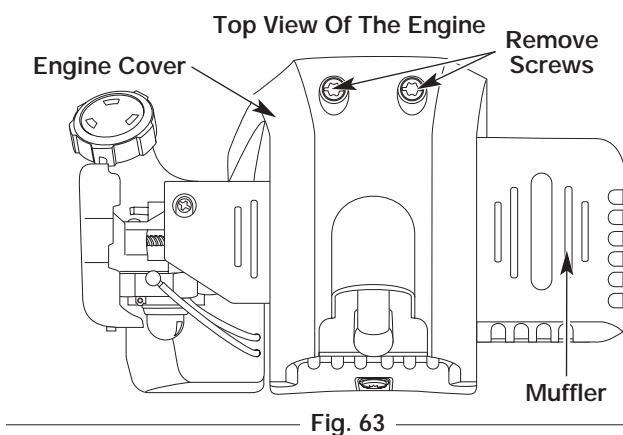

Fig. 63
2. Remove the two (2) screws on top of the engine cover with a Flat-head or T-25 Torx screwdriver (Fig. 63).
6. Remove the engine cover (Fig. 63).